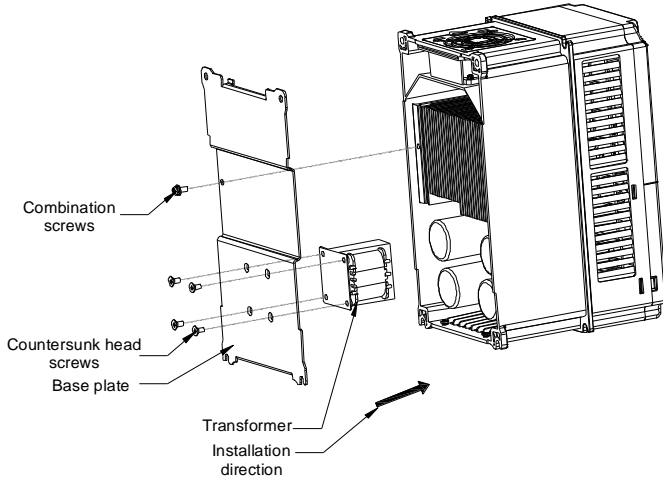

Figure 6-3 Transformer assembly diagram
4. After replacing the power-frequency transformer, install the power-frequency transformer and the base plate back to the VFD in the opposite order, as shown in Figure 6-3.